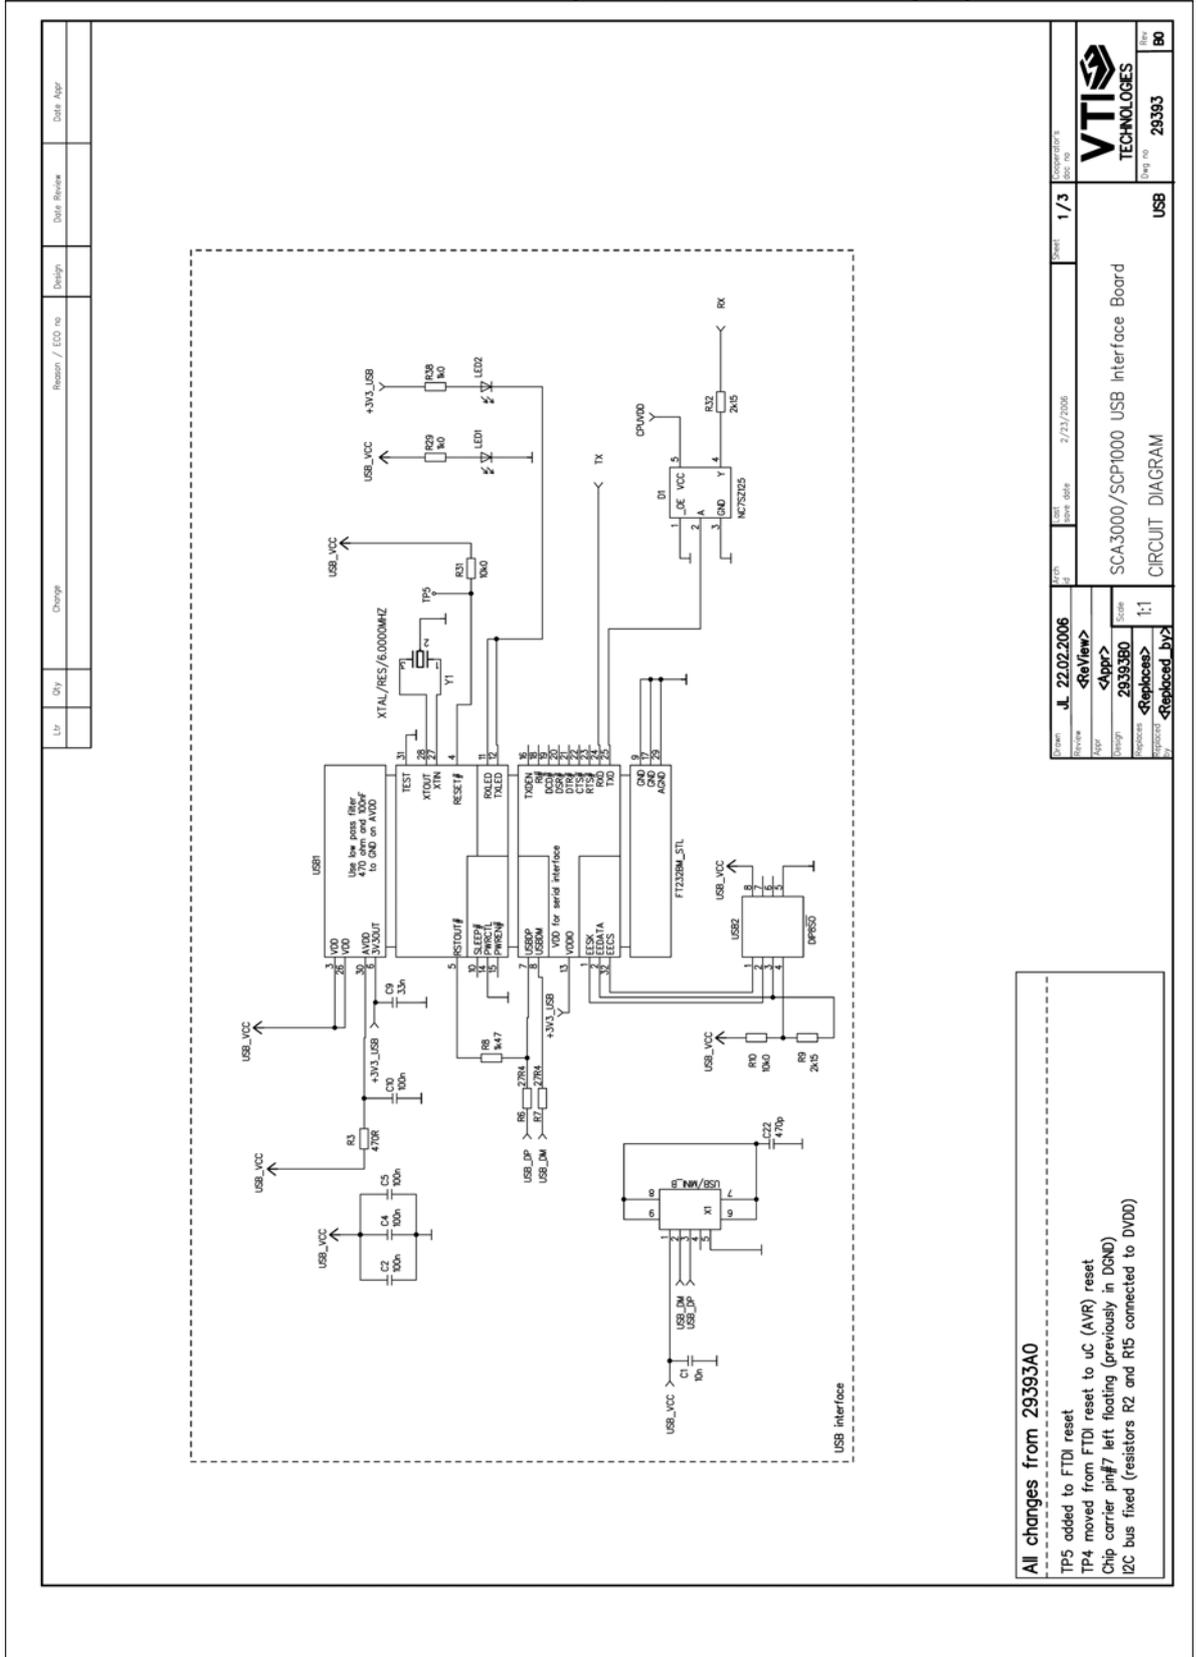

Figure 14. CMA3000 DEMO KIT USB interface board circuit diagram (sheet USB).
7. The text file is a macro that runs in an endless loop. The macro sends 3-axis acceleration data in hex format to HyperTerminal (see Figure 14). Example of data format: